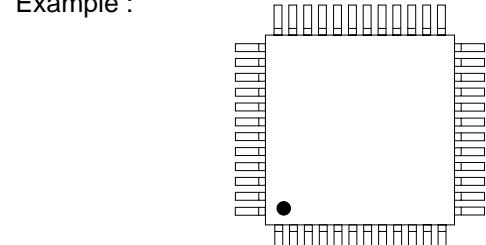
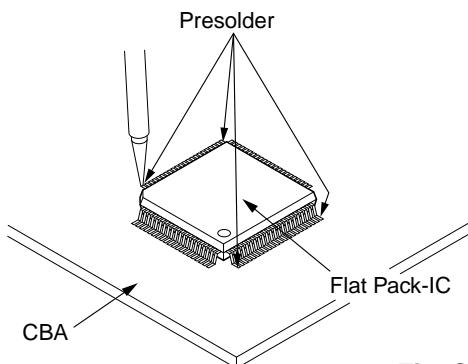

Fig. S-1-7
Fig. S-1-8
- (1) Using desoldering braid, remove the solder from the foil of each pin of the flat pack-IC on the CBA so you can install a replacement flat pack-IC more easily.
- (2) The “●” mark on the flat pack-IC indicates pin 1. (See Fig. S-1-7.) Be sure this mark matches the 1 on the PCB when positioning for installation. Then presolder the four corners of the flat pack-IC. (See Fig. S-1-8.)
- (3) Solder all pins of the flat pack-IC. Be sure that none of the pins have solder bridges.